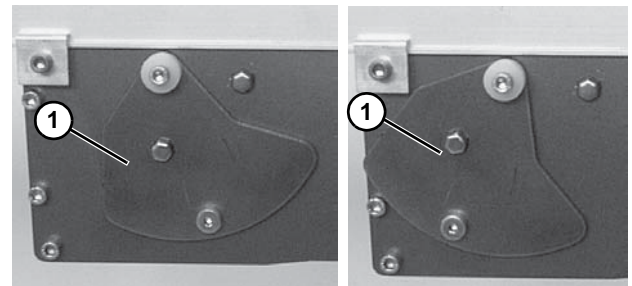

Figure 53
For a new belt, the tension plate (Figure 53, item 1) will be in position indicated below left. When the tension plate extends to position indicated below right, the conveyor belt must be replaced.